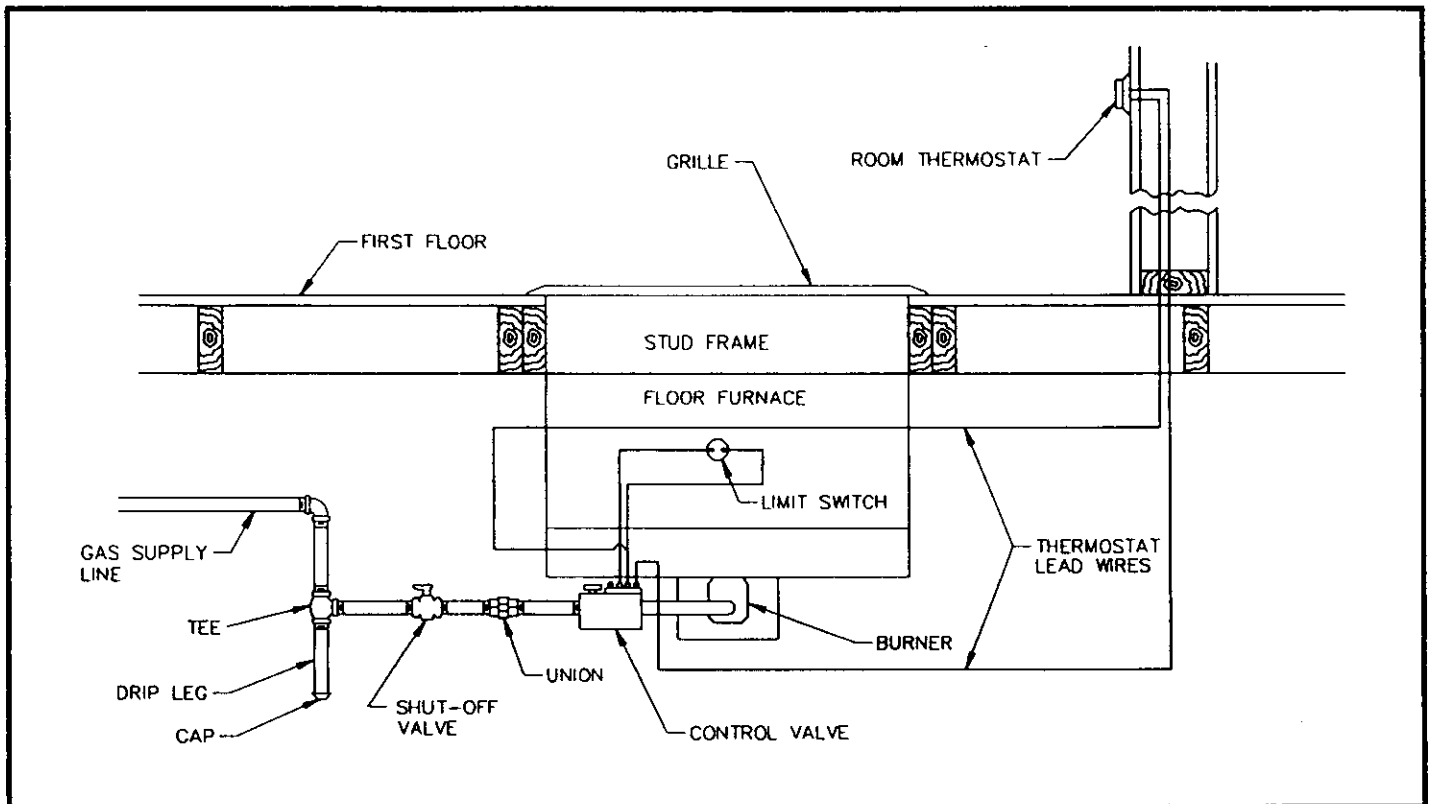

FIGURE 5
Gas pipe must be installed by a qualified installer. The pipe system must comply with the latest edition of the American National Fuel Gas Code Z223.1. Figure 5 depicts the required pipe arrangement at the furnace. The drip leg is required to prevent condensate and scale particles from entering the furnace controls. The union is required to allow the control to be removed for servicing. All unions in gas pipe systems shall be of the ground joint type. Use a pipe joint compound that is resistant to liquified petroleum gases (LPG). Do not locate pipe joints in a concealed location where leak detection and repairs are difficult or impossible.
13. Install the (2) drafthood collars and gaskets by positioning the collars into the (2) rectangular openings on the furnace, making sure gaskets are facing toward the furnace.
14. Slip the (2) drafthood collars over the combustion chamber outlets and engage the collars into the furnace until the gaskets press tight against the furnace. Secure the collars to the furnace with (12) screws previously removed.
16. Install the drafthood by positioning the drafthood with open side down. Slip over the drafthood collars making sure the drafthood collars engage into the drafthood. Secure the drafthood to the furnace with (4) screws previously removed.
18. Connect the furnace to the gas supply line as specified by the "Gas Supply and Piping Requirements" section of this manual (see Figure 5).